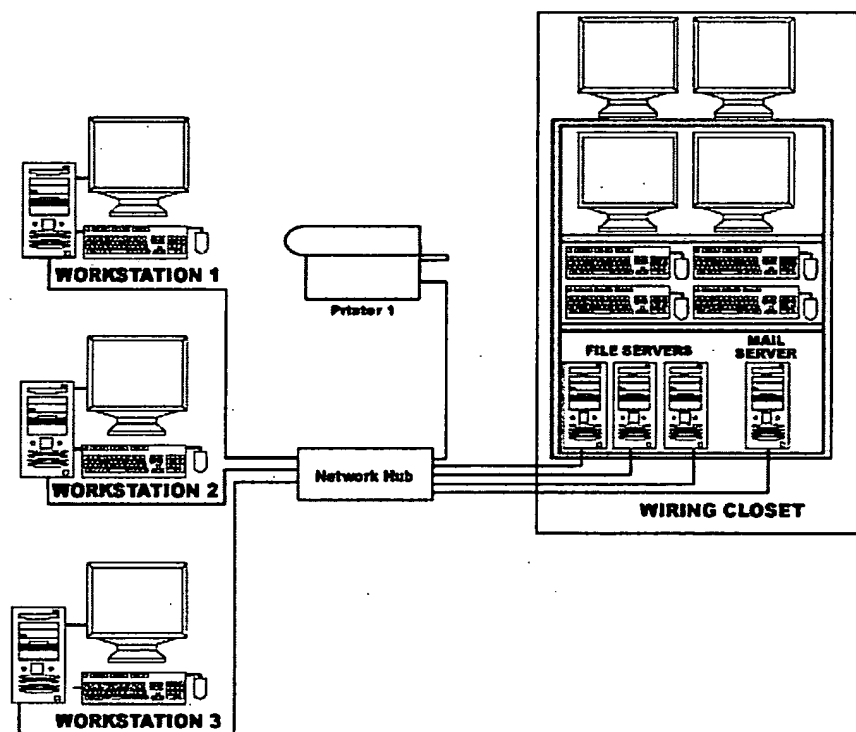
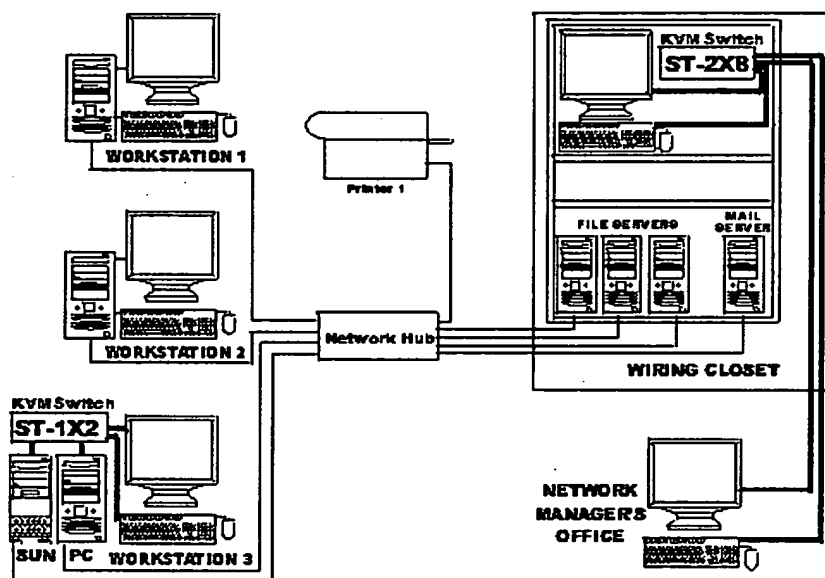

Figure 2 – Diagram of a Server-Based Network Configuration
Figure 3 – Addition of KVM Switches to a Server-Based Network
A KVM switch is not a substitute for networking computers, but rather can add functionality to a network. A *network* utilizes a combination of hardware and software to allow attached computers to share files, printers, and other resources. Computers attached to the network are called *workstations*. Each computer is independent, with shared privileges to the printer and server. In the application illustrated in Figure 2, any workstation can share files or use the printer or servers.
Users on a network with a Windows operating system can access files which reside on other workstations in the network (as long as the other workstations have been set up to allow them access). However, they cannot run programs that reside on the other workstations, or see that workstation's desktop on their monitor. In the application illustrated in *Figure 3*, KVM switches have been added that would provide these capabilities.
- Direct access to the host console port. There are some privileges that the console retains which cannot be accessed from another workstation. *Figure 3* illustrates a modification of the application in *Figure 2*. Here, the KVM switches allow the user to control any workstation connected to the switch with full privileges.
KVM switches are hardware based and transparent to the attached computers. KVM switches do not need special software because they do not change the way the computer operates or interacts with users. The modification illustrated in *Figure 3* includes some applications for KVM switching. A Sun® computer is added to Workstation 3's workspace. The user at Workstation 3 can now control both the Sun and PC computers with one keyboard, monitor and mouse. The addition of an NTI ST-2x8 multiple-user/multiple platform matrix KVM switch with *On Screen Display* (OSD) and *Security Features* in the server room will allow a network administration staff to control multiple computers (PCs, Suns and Macs) from both the network administration office and the server room.